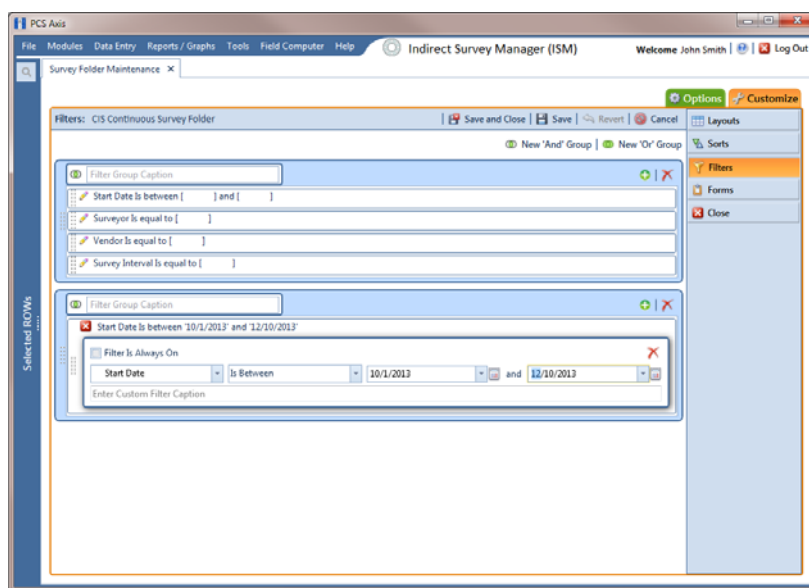

Figure 6-18. Filters
- 6 Click the **Filters** button  to open the *Filters* page. Then click  **New 'And' Group** to open a filter properties group box (Figure 6-18).
- 9 If the AND filter group includes a date filter, such as *Start Date Is Between* shown in Figure 6-18, set a date range using a calendar or dynamic dates in the following manner: